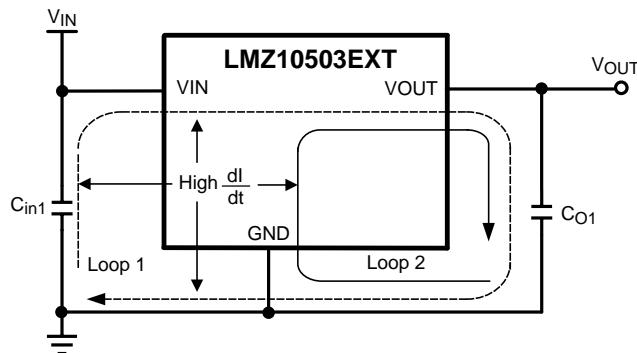

Figure 29. Critical Current Loops to Minimize
From an EMI reduction standpoint, it is imperative to minimize the high di/dt current paths. The high current that does not overlap contains high di/dt , see Figure 29. Therefore physically place input capacitor (C_{int}) as close as possible to the LMZ10503EXT VIN pin and GND exposed pad to avoid observable high-frequency noise on the output pin. This will minimize the high di/dt area and reduce radiated EMI. Additionally, grounding for both the input and output capacitor should consist of a localized top side plane that connects to the GND exposed pad (EP).